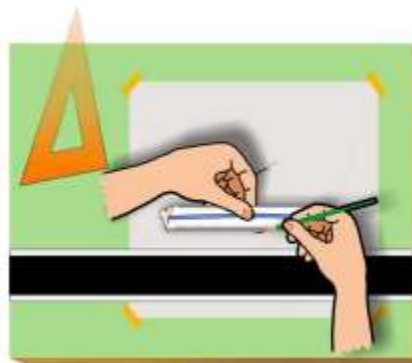

Figure 6 Using a Scale to Make a Measurement on the Horizontal Line
- Measure the along the horizontal construction line with the scale and mark off the desired distance with a small tick mark. See Figure 6.